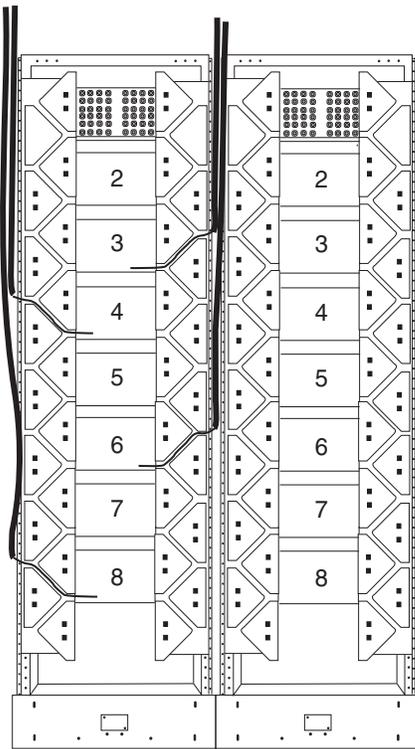

Figure 7
**10.1** Route OSP/IFC cables down the outside rear of frame to the appropriate housing. Strain-relieve the cable and transition connectorized fibers through routing triangles into connector housing (Figure 7).